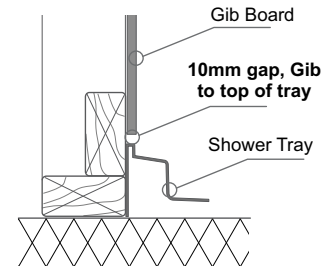

Fig 3
- 5 - **Gib Board** - Place tray in position and run a pencil line around the top and front edge of the tray. Remove the tray, and cut 10mm above the marked line. On the front edge cut 10mm inside the line (see Fig 3 above). Remove gib-board. Renail cut edge to the studs after removal of gib board. The tray does not require checking into the studs